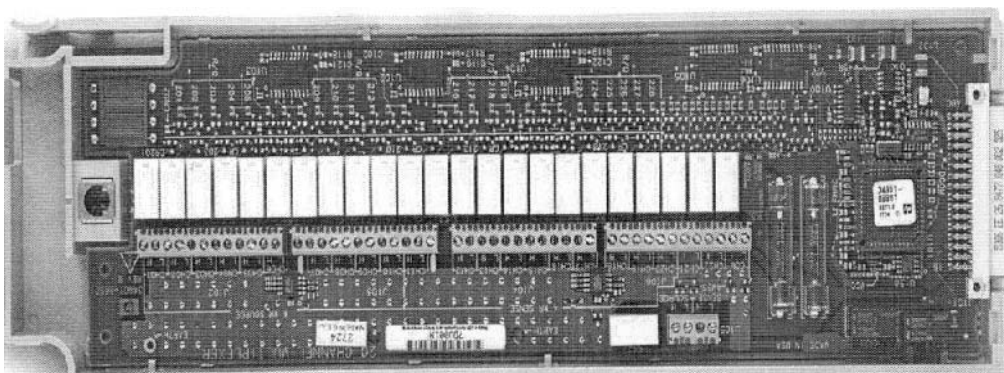

Figure 4.4. The 34901A 20-Channel Multiplexer
8. Obtain a J-type thermocouple and install it into one of the channels on the 20-channel multiplexer (34901A). See Figure 4.4.